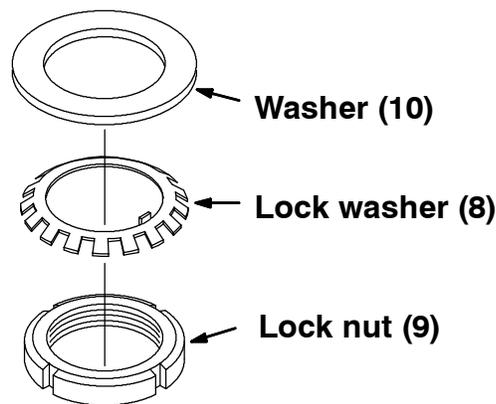

FIG. 9 - Special Washers
5. Torque the slotted nut to 80 ft lbs. Rock the casting back and forth. Re-tighten the slotted nut to 100 ft lbs. Continue to tighten until tabs line up. Bend tabs on washer to lock slotted nut. (Refer to FIG. 9)